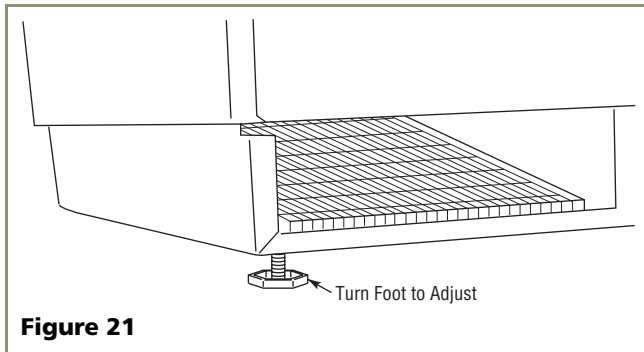

Figure 21
2. If the unit is not level, adjust the feet on the corners of the unit as necessary (see **Figure 21**).